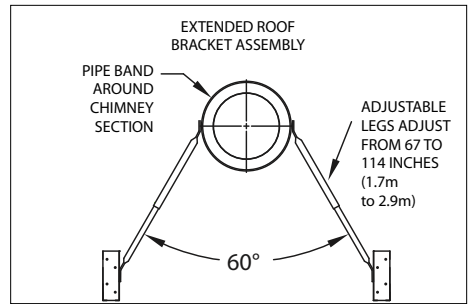

Figure 16
than 4-feet (1.2 m) above the roof, and another Extended Roof Bracket for every additional 4-feet (1.2 m) that the chimney extends above the roof penetration. (**Figures 16 & 17 in the Extended Roof Bracket section**). If you are located in heavy snow country, thought must be given to protecting the chimney from damage due to sliding snow and ice. In these cases, locating the chimney as close as possible to the ridge line is recommended. Important: A snow splitter offers no absolute guarantee against damage. The best defense against snow and ice damage is to locate the chimney out of harm's way, or to remove snow & ice as required before it can accumulate to a dangerous level.
2. Attach the Legs: The Adjustable Legs of the assembly will adjust from 67" to 114" (1675 mm to 2850 mm). Secure one end of the Legs to the Pipe Band using the nuts and bolts included (1 per Leg). Position the Adjustable legs so they form approximately a 60° angle with the chimney, and with each other (**Figures 16 and 17**). Be sure that there is at least 3" (75 mm) of overlap between the top and bottom halves of the Adjustable Leg. To secure the legs in place, mount the Leg Clamp at the position where the two leg halves overlap and tighten the hardware provided. It is important to tighten the Leg Clamp sufficiently to prevent the two leg rods from moving.
3. Install Roof Brackets: Mount the two Roof Brackets where each of the Adjustable Legs meets the roof, using (6) 1" (25 mm) roofing nails per bracket. Seal the nail heads carefully with a non-hardening, waterproof